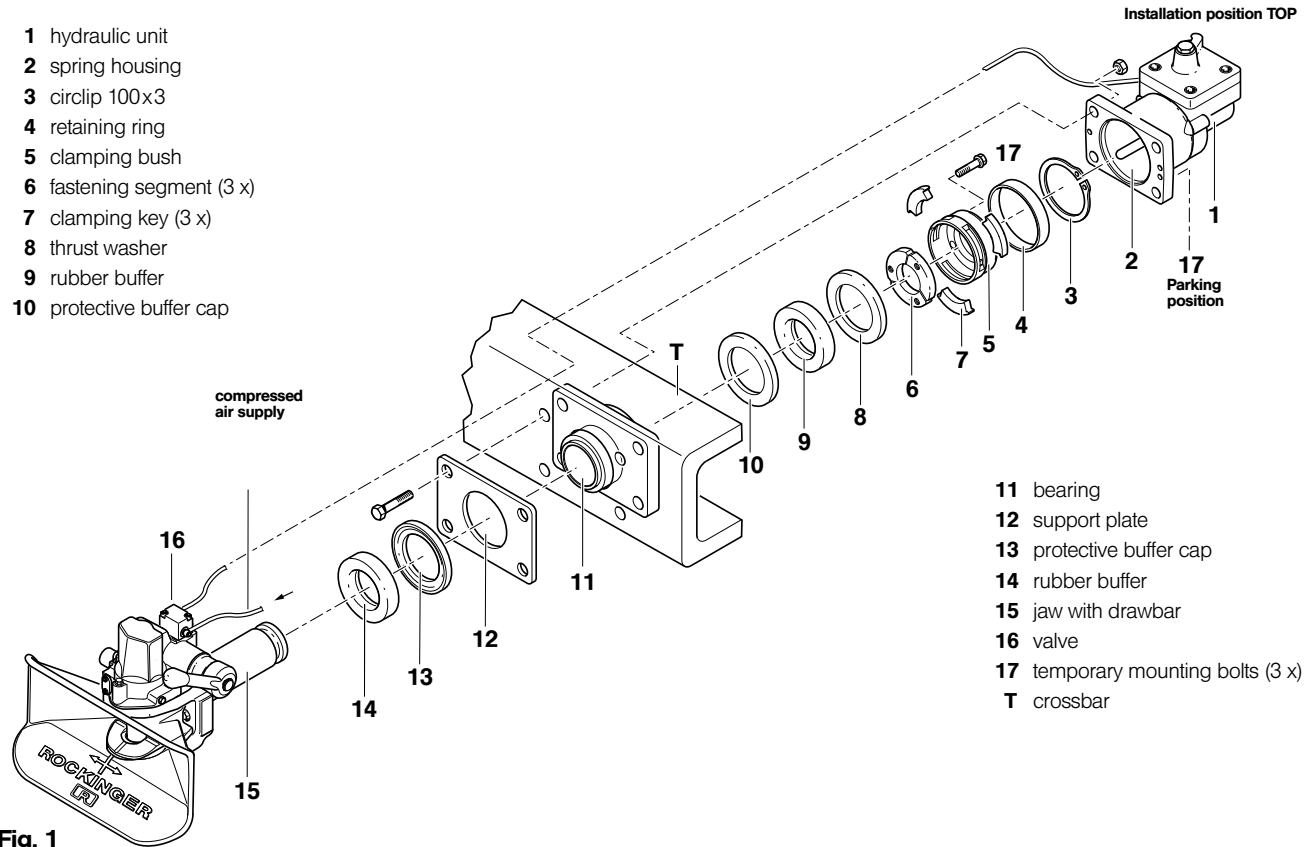

Fig. 1
1.1 Before installation (see fig. 1)
- Release transport bracket from spring housing (2), mounting plate (11) and support plate (12) (screws no longer required).
- Remove hydraulic unit (1) with spring housing (2) completely.
- Remove circlip (3) with circlip pliers ZGA 4 DIN 5254 and retaining ring (4).
- Unscrew 3 temporary bolts (20) from spring housing (2) (width-across-flats 17 mm).
- Screw 3 temporary bolts (20) gradually into clamping bush (5) as far as stop (approx. 80 Nm) until the 3 clamping keys (7) can be easily removed.
- Unscrew 3 temporary bolts (20) again and withdraw clamping bush (5), remove 3 fastening keys (6).
- Withdraw thrust washer (8), rubber buffer (9), protective buffer cap (10) from jaw with drawbar (15).
- Withdraw mounting plate (11) with support plate (12) and protective buffer cap (13) from drawbar (15), while rubber buffer (14) remains on drawbar (15).
1.2 Installation (see fig. 1)
- Attach mounting plate (11) preliminarily from inside to crossbar (T) and support plate (12) from outside to crossbar (T) using 2 of 4 mounting screws (please refer to p. 3 for size and grade).
- Fit protective buffer cap (13) onto mounting plate (11) with concave side towards rubber buffer (14).
- Slide jaw with drawbar (15) and rubber buffer (14) into mounting plate (11):
- Fit protective buffer cap (10) onto mounting plate (11) with concave side towards rubber buffer (9).
- Slide rubber buffer (9) onto drawbar (15).
- Slide on thrust washer (8) with concave side towards rubber buffer (9).